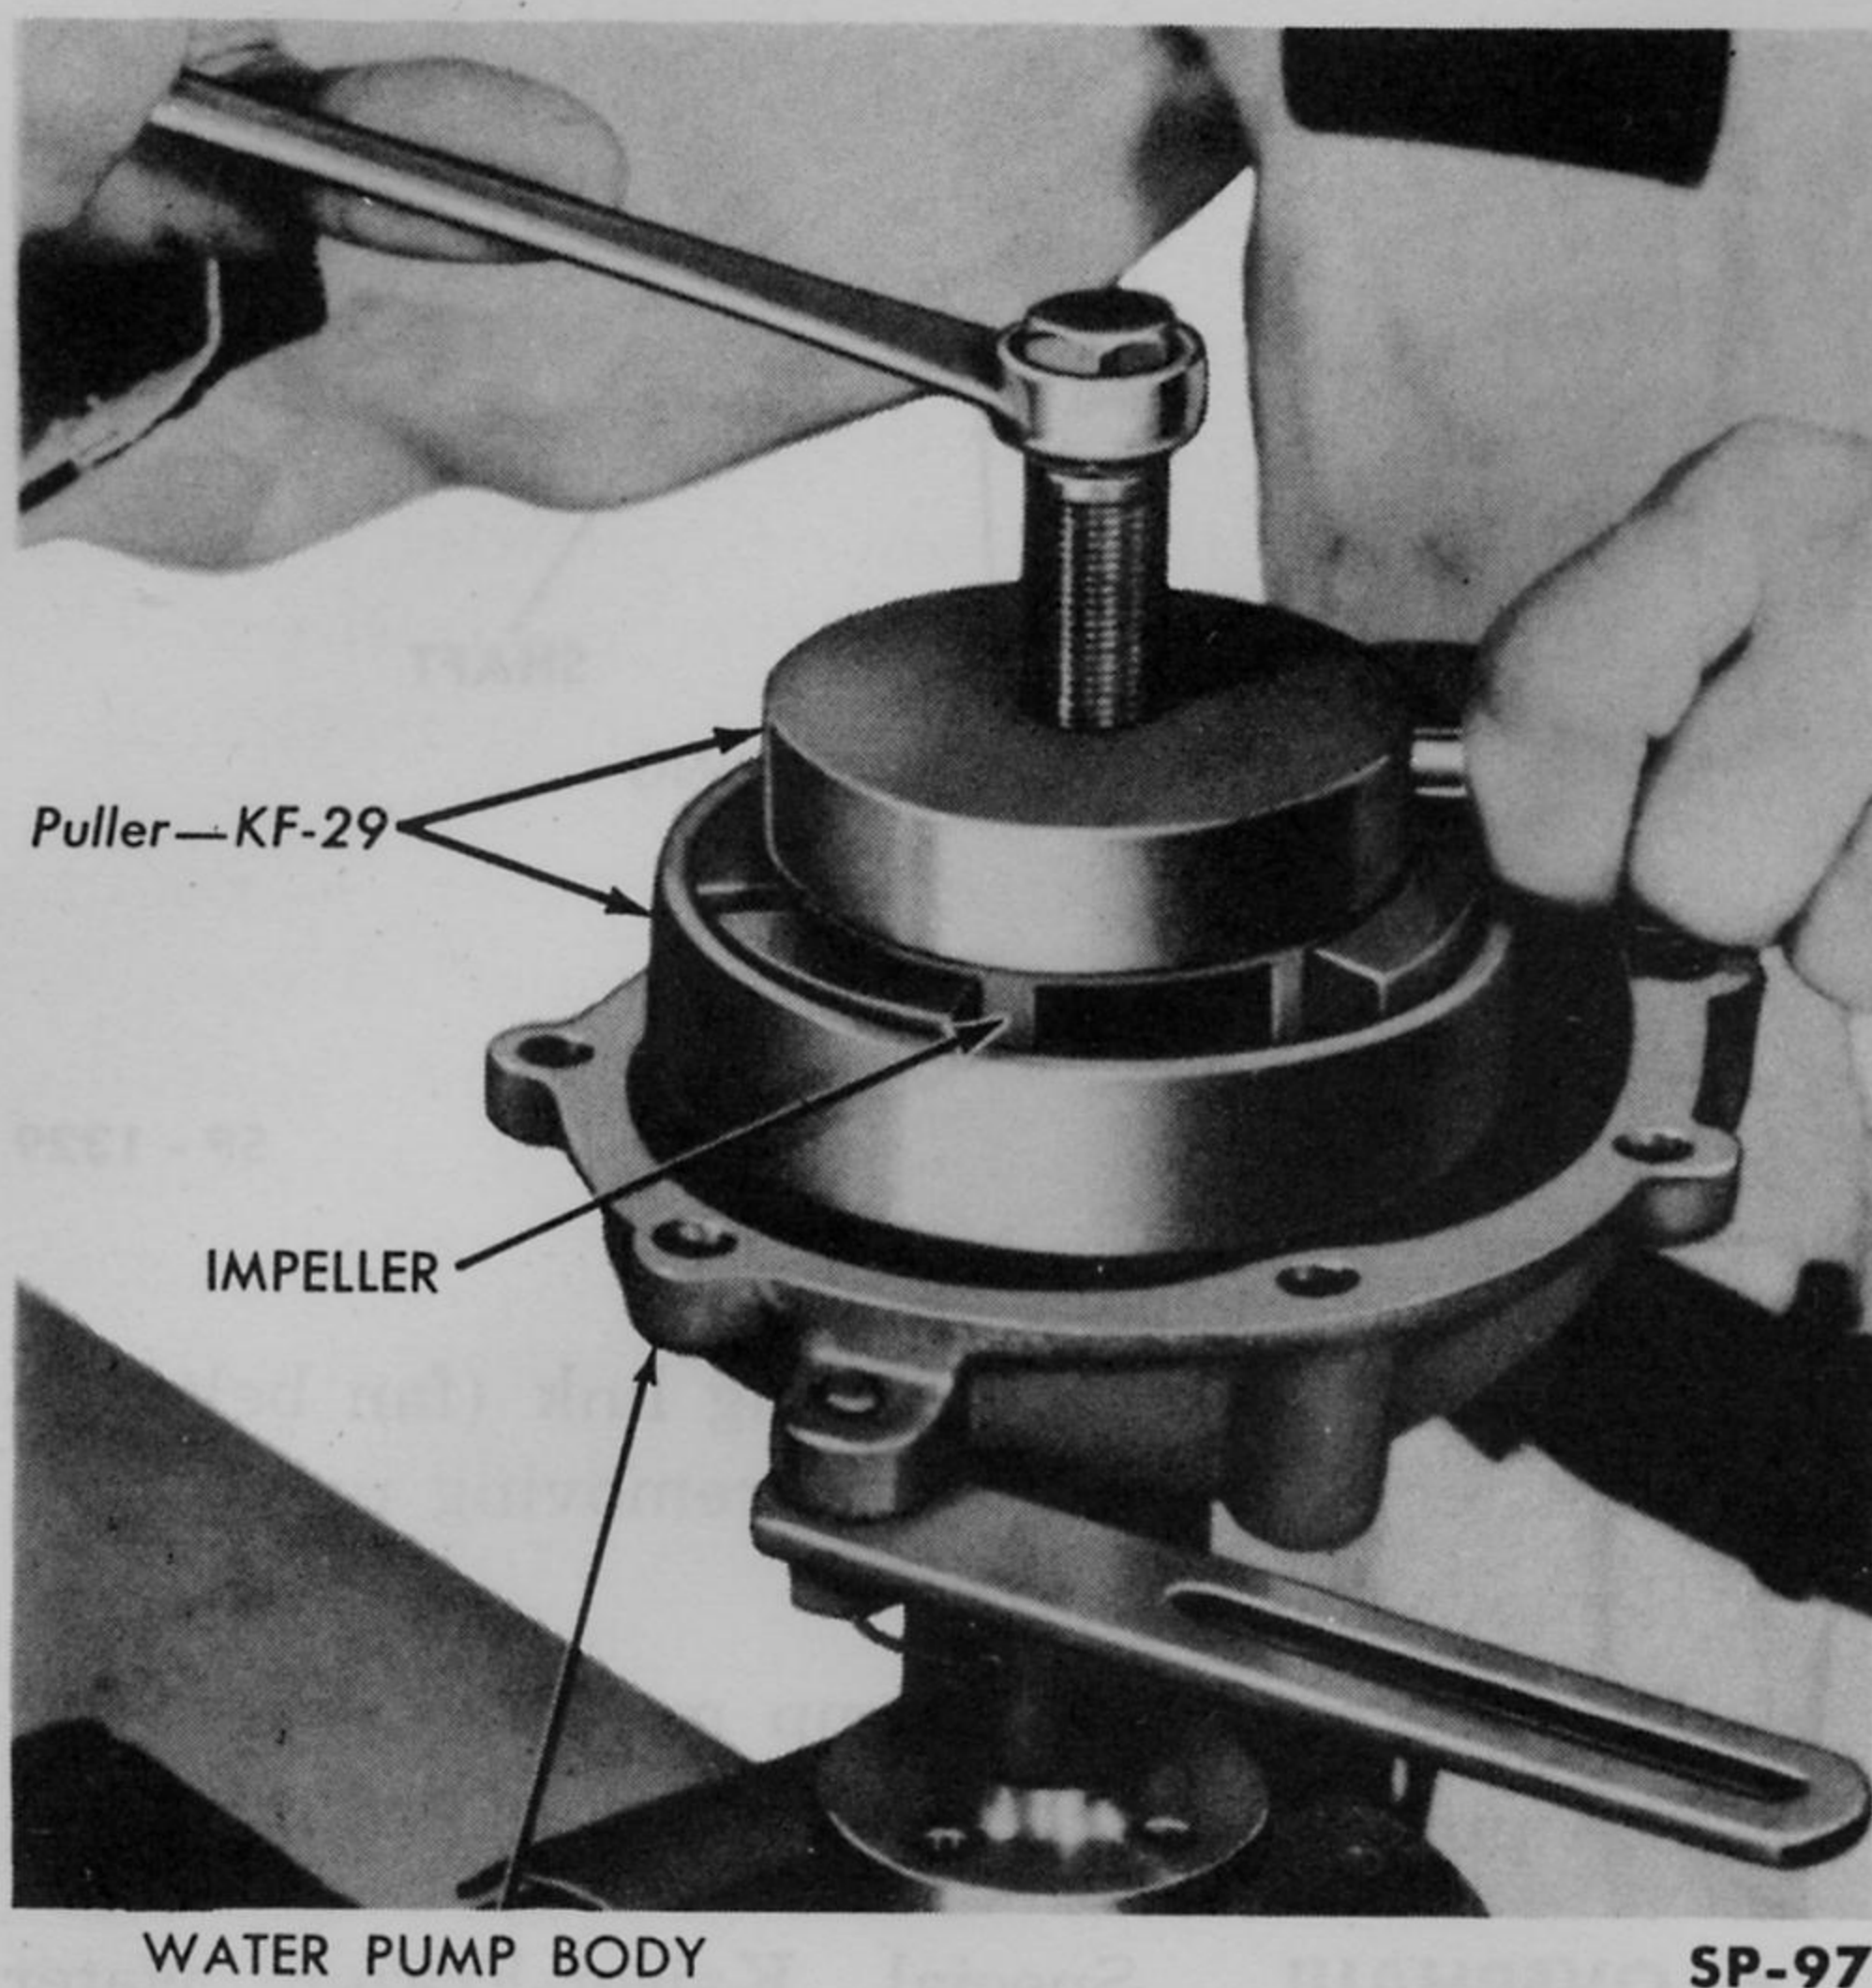

Fig. 160—Removing Water Pump Impeller—Frazer
4. Remove pump impeller from pump shaft. Fig. 160 illustrates use of special tool, Puller KF-29. For use on 1951 Kaiser water pump, Puller KF-29 requires a special screw and jaws, available as Adapter Kit KF-113. If the pump body is properly supported an arbor press can be used effectively to push the pump shaft out of both impeller and housing—after the pump shaft bearing retaining ring (Fig. 158 or 159) has been removed.